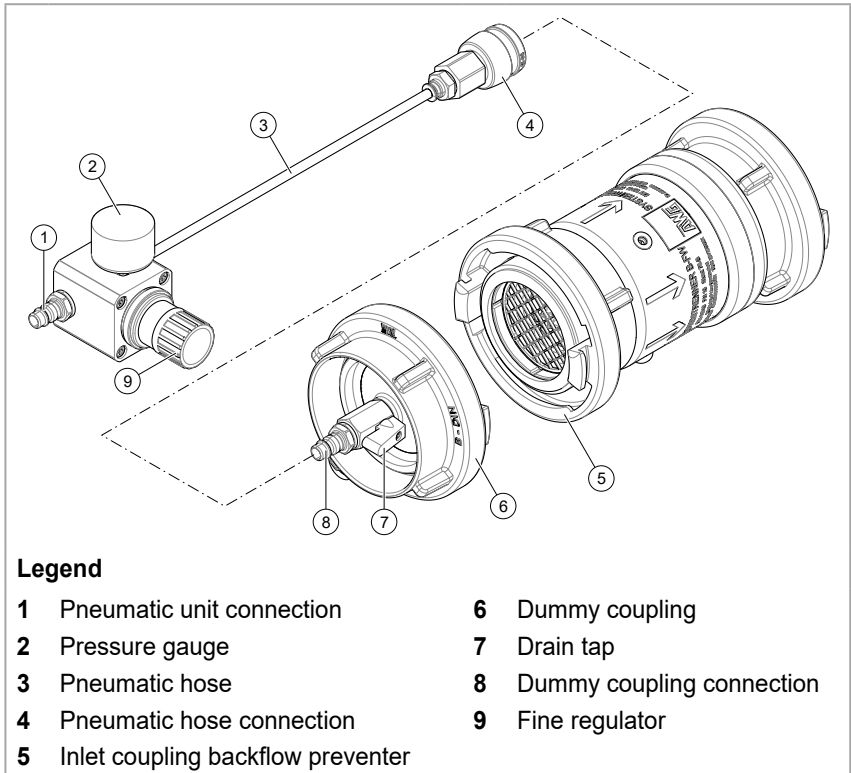

Fig. 5 Test set
- Connect the inlet coupling of the backflow preventer (Fig. 5/5) to the pump outlet of a fire extinguishing centrifugal pump, for example, and completely vent the system using the drain tap.
- ✓ The fine regulator (Fig. 5/9) on the pneumatic unit is closed.
1. Close the input coupling of the backflow preventer (Fig. 5/5) with the dummy coupling (Fig. 5/6).
2. Connect the connector of the pneumatic hose (Fig. 5/4) to the coupling of the drain tap (Fig. 5/7).
3. Connect the connector of the pneumatic unit (Fig. 5/1) to the compressed air supply.
5. Slowly increase the air pressure using the fine regulator (Fig. 5/9).